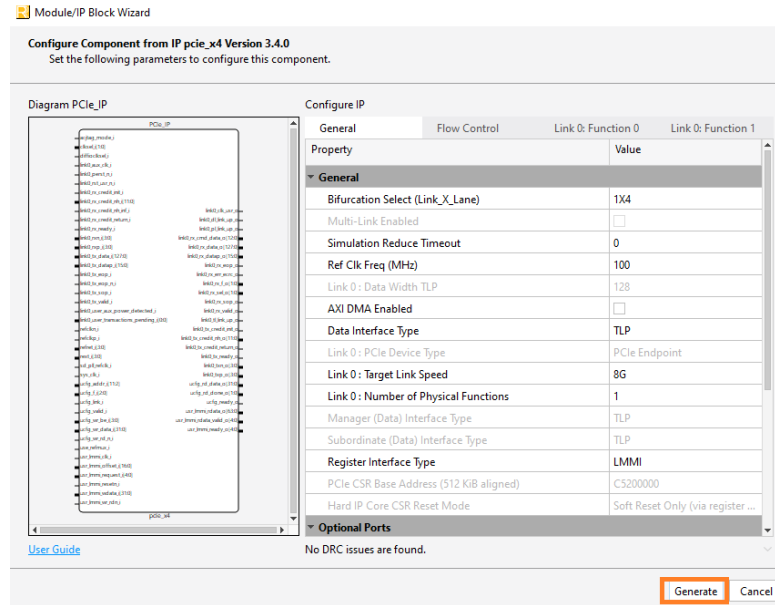

Figure 7.4. IP Generation
- Click **Generate** to re-generate the PCIe_IP instance as shown in Figure 7.4.